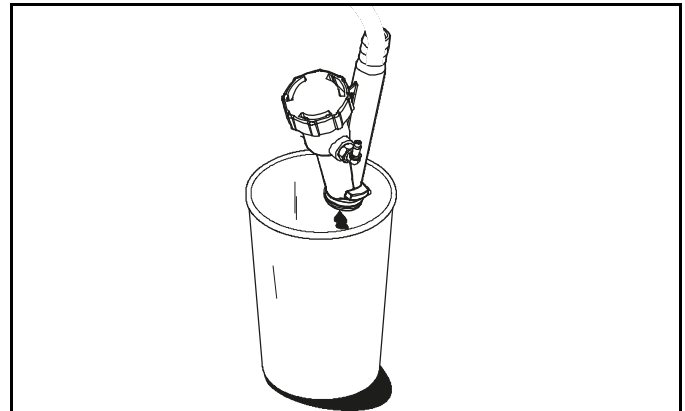

Figure 6-59
2. Hold an empty cup under the syrup valve. (See Figure 6-59.)